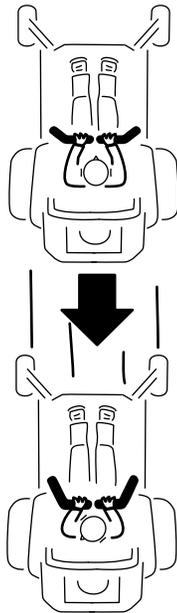

**Figure 23**
3. To go forward, slowly push the motion-control levers forward (Figure 23).